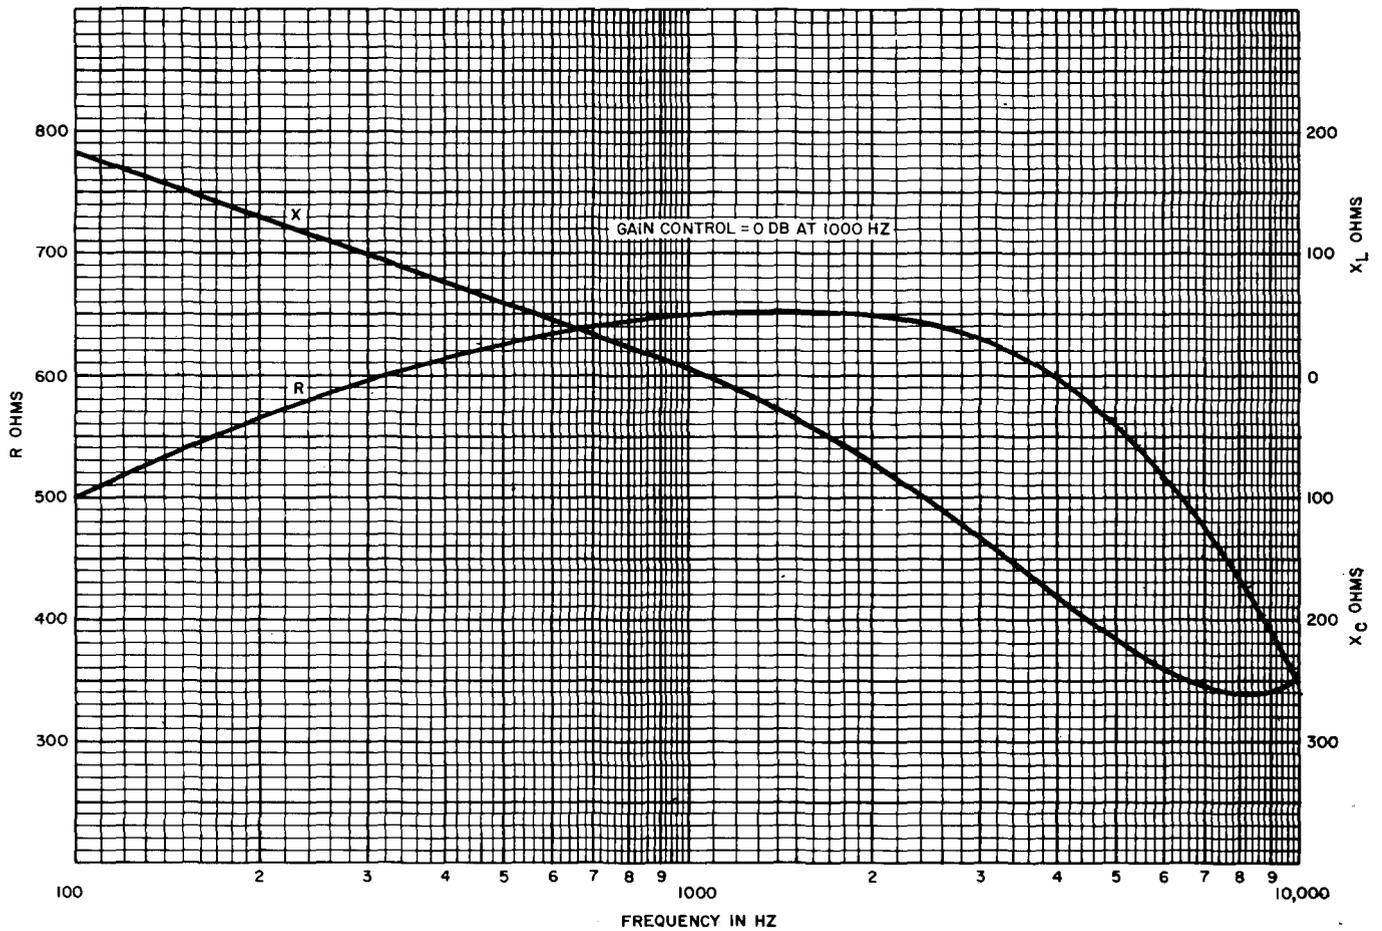
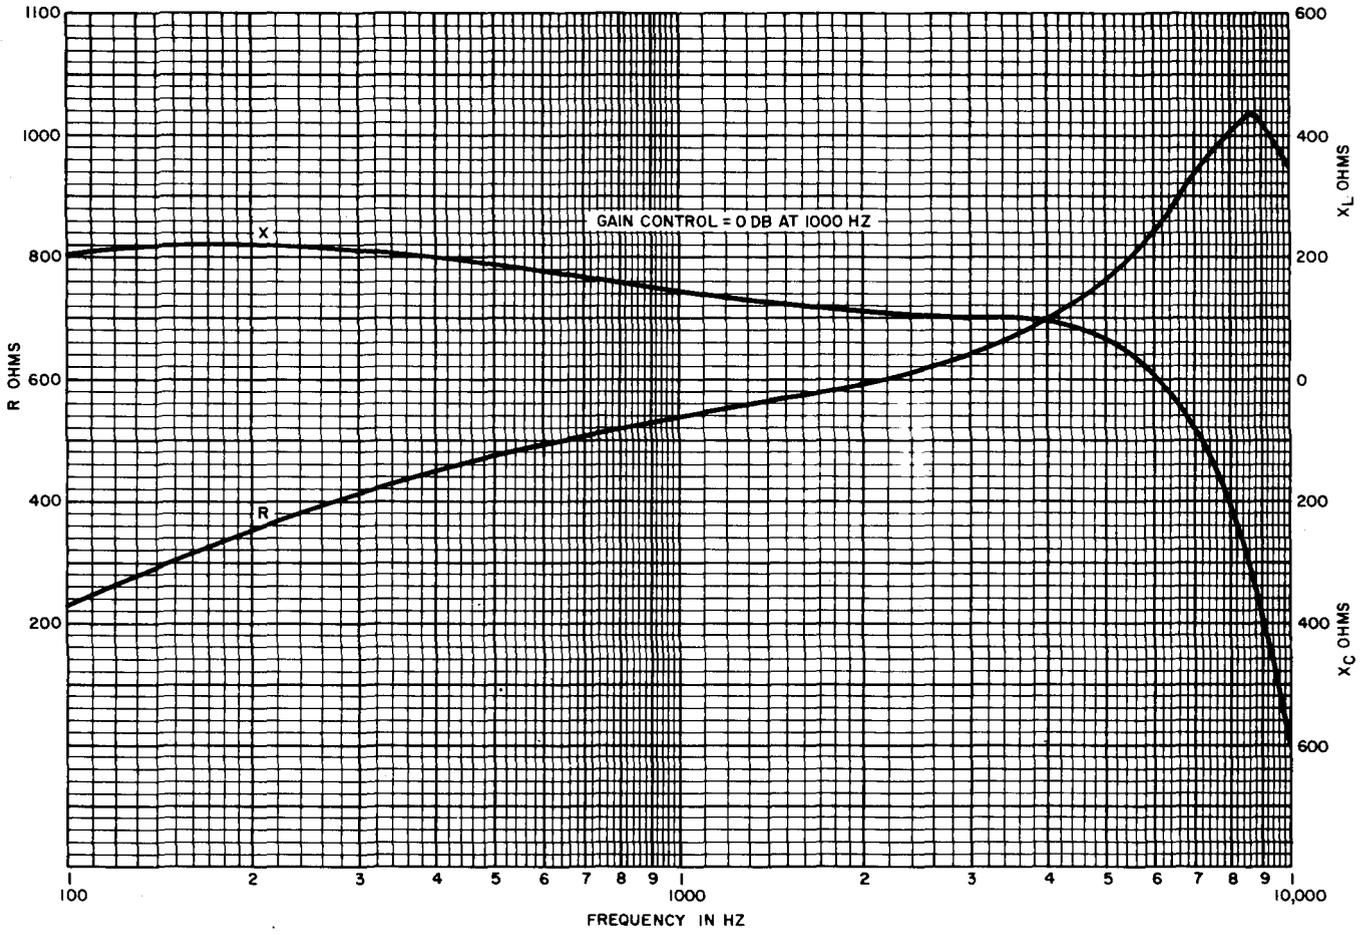

Fig. 3—KS-20378 Amplifier Input Impedance—600-Ohm Termination
Fig. 4—KS-20378 Amplifier Output Impedance—600-Ohm Termination
**4.01** The KS-20378 amplifier presents a nominal input and output impedance of 600 ohms at 1000 Hz. Figure 3 shows the input impedance of the amplifier with the gain control potentiometer adjusted for 0 dB at 1000 Hz. At 1000 Hz the inductive and capacitive reactance cancels out, resulting in approximately 600 ohms resistance. Figure 4 shows the output impedance of the amplifier with the gain control potentiometer adjusted for 0 dB at 1000 Hz.